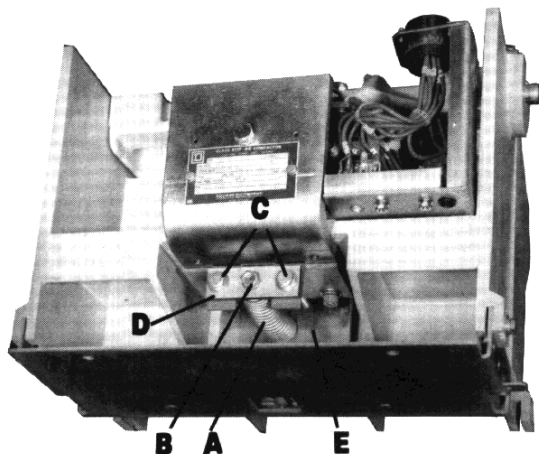

FIGURE 6
Before removing armature spring (A) (See Figure 6), evenly loosen bolts (C) and allow spring guide bracket (D) to release spring pressure. Remove bolts (C), spring guide bracket (D) and spring (A) without disturbing spring guide bolt (B).